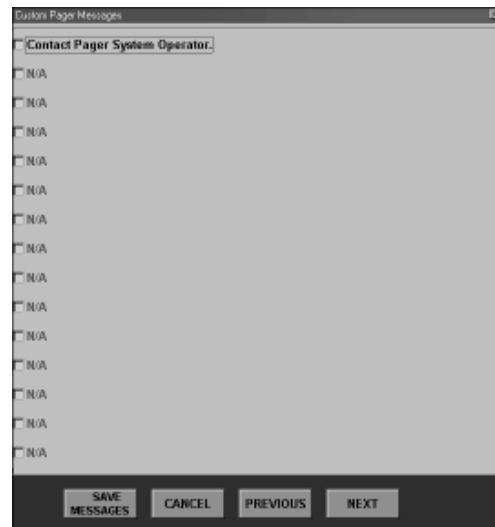

Figure 28: Custom Pager Messages
9. Refer to *Figure 28* for the CUSTOM PAGER MESSAGES menu that will appear.